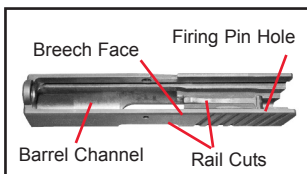

Figure 27
2. Spray the Slide with Rem Action Cleaner, including the breech face, barrel channel, rail cuts, and the firing pin hole. See Figure 27.